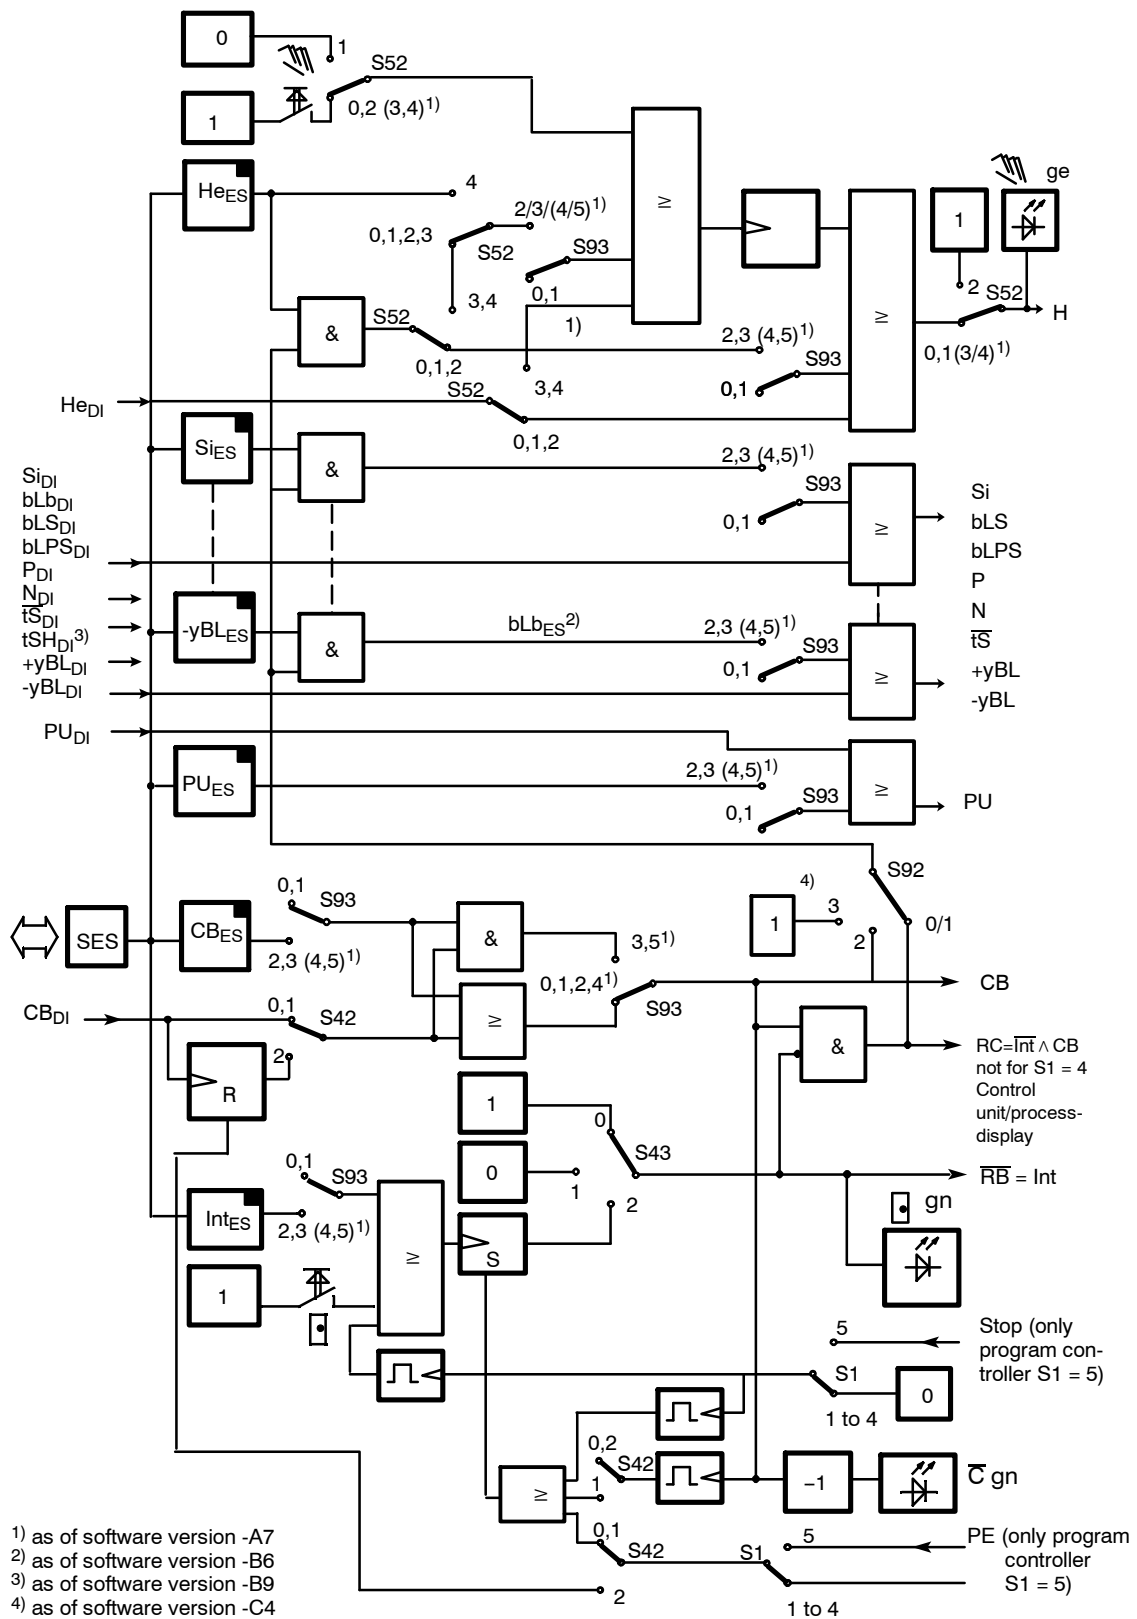

Figure 3-3 Linking the digital inputs DI with the control signals via the SES (S42, S43, S52, S93)
see figure 3-3, page 57
With  $S43$  the internal/external key (13) can be deactivated and blocked in the settings internal or external (see figure 3-3, page 57). The factory setting is  $S42 = 0$  (only internal).